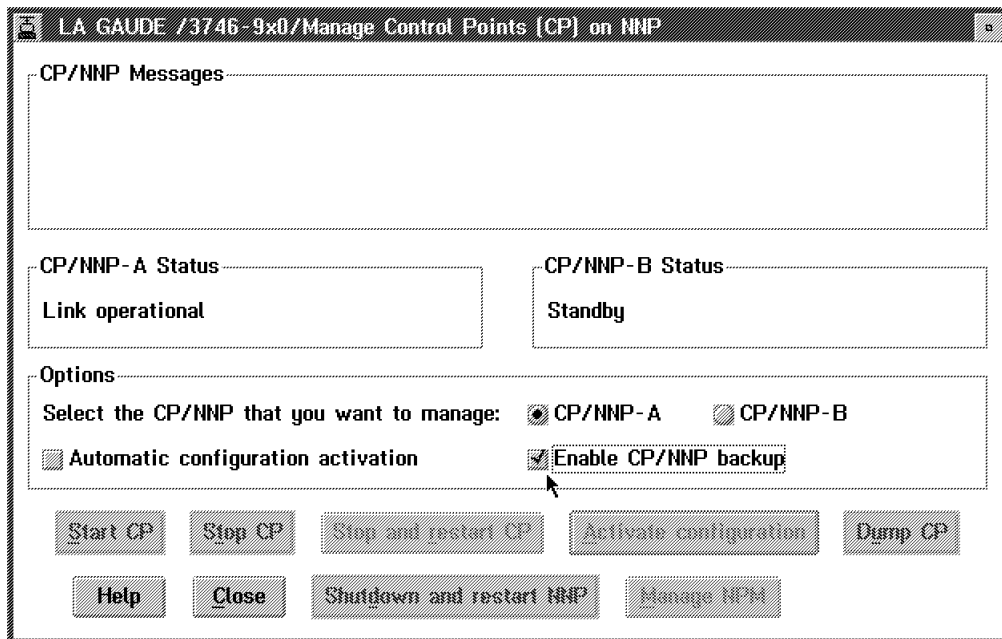

Figure 6-1. Manage the Control Points
- b. **Set or reset the automatic configuration activation**, refer to Figure 6-1.
- c. **Enable the CP/NNP backup** if the nnp-b is installed, refer to Figure 6-1.